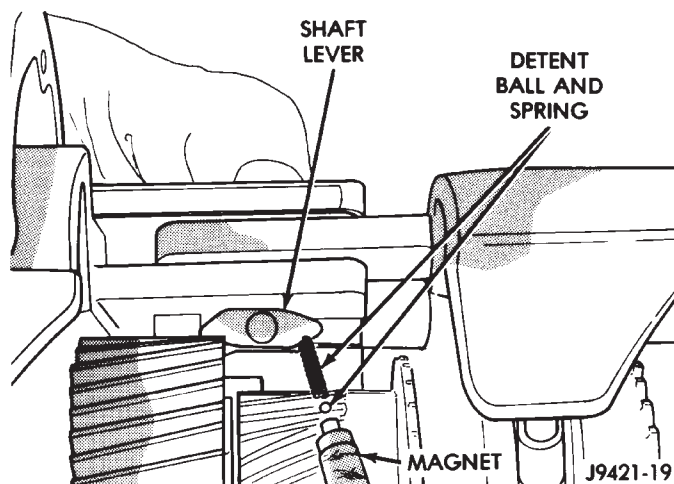

Fig. 116 Installing Detent Ball In Shaft Lever
(18) Install detent ball on top of spring in lever bore (Fig. 116).
(19) Press and hold detent ball in lever. Then carefully rotate lever upward into fork arm notches. Be